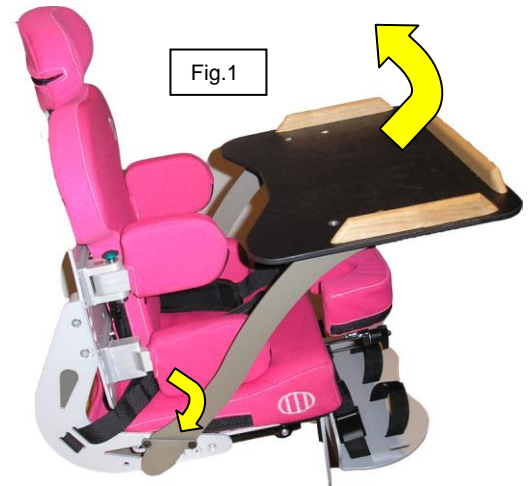

Fig.1
- To install the Tray, tilt the Tray upwards and rearwards to allow the Supports to enter the newly installed guides until they reach the stops, (see Fig. 1). Then lower the Tray until the Supports locate against the Spacer Bushes of the newly installed guides.